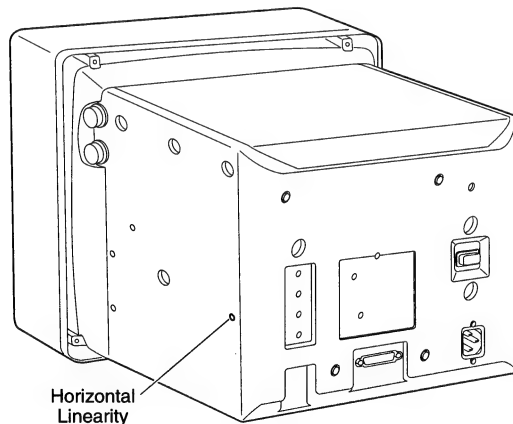

Figure 3 Horizontal Linearity Adjustment
3. FIGURE 3. Using the linearity adjustment tool, turn the Horizontal Linearity control until the raster is as wide as possible.
4. FIGURE 3. Slowly turn the Horizontal Linearity control until both the left and right sides of the raster are the same distance from the center of the screen.